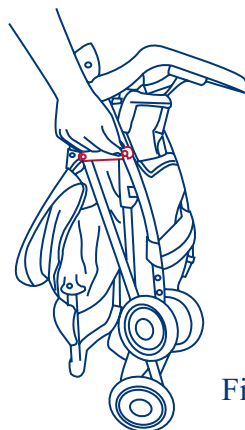

Fig. 15
- * Release the folding latch, which is located on the right side. See figure 15.